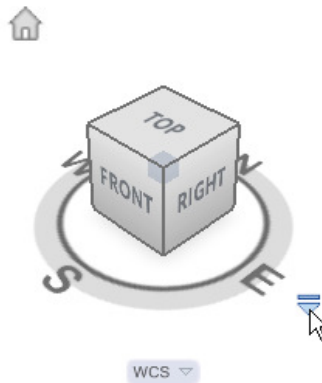

Figure Step 5
Step 5 Click the arrow icon located on the lower right side of ViewCube. (Figure Step 5)